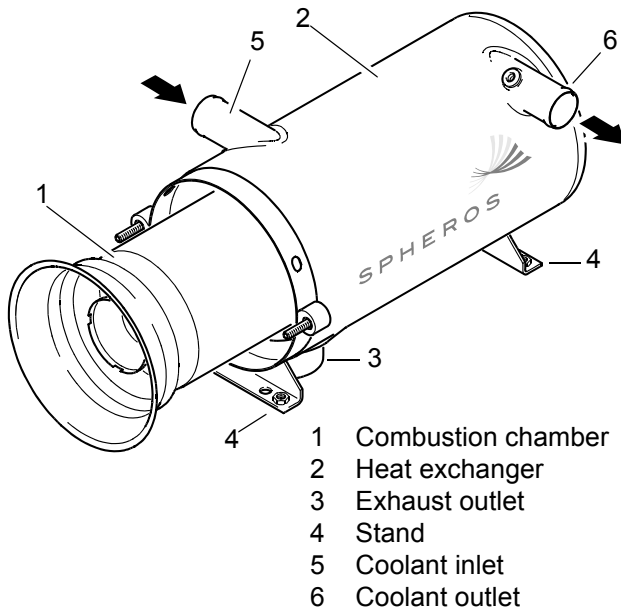

Fig. 807 Combustion chamber disassembly and assembly
2. Pull combustion chamber (1, Fig. 807) out of the heat exchanger (2).
1. Slide combustion chamber (1, Fig. 807) into the heat exchanger (2) as far as it goes.
3. Pull combustion chamber (1, Fig. 807) out of the heat exchanger (2) (see 8.11).
4. If necessary, loosen the exhaust line clamp on the exhaust outlet (3).
6. Loosen hose clamps on the coolant hoses, pull coolant hoses from the coolant inlet (5) and the coolant outlet (6) and seal with blank plugs. Caution if coolant temperature is increased.
7. Remove screws and washers of the heat exchanger stand (4).
1. Bring heat exchanger (2, Fig. 807) into installation position and mount stand (4) using screws, nuts and washers to the vehicle according to the mounting points used.
2. If necessary, secure the exhaust line using a clamp to the exhaust outlet (3).
3. Fit coolant hoses onto the coolant inlet (5) and the